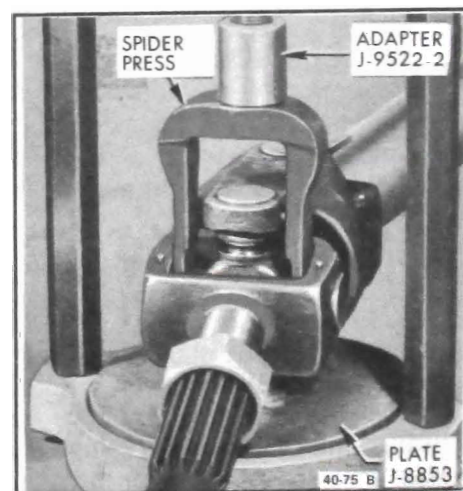

Figure 40-71 - Pressing Out Bearing Cap
2. Position propeller shaft constant velocity joint into the fixture as set up in Step 1 with the link yoke bearing over the hole in J-8853 Replacer Plate. Install Spider Press J-9522-3 on spider. See Figure 40-71. The notches in the spider press are offset so that this press can be positioned on the spider without interference from the link yoke casting. With tools in position, actuate